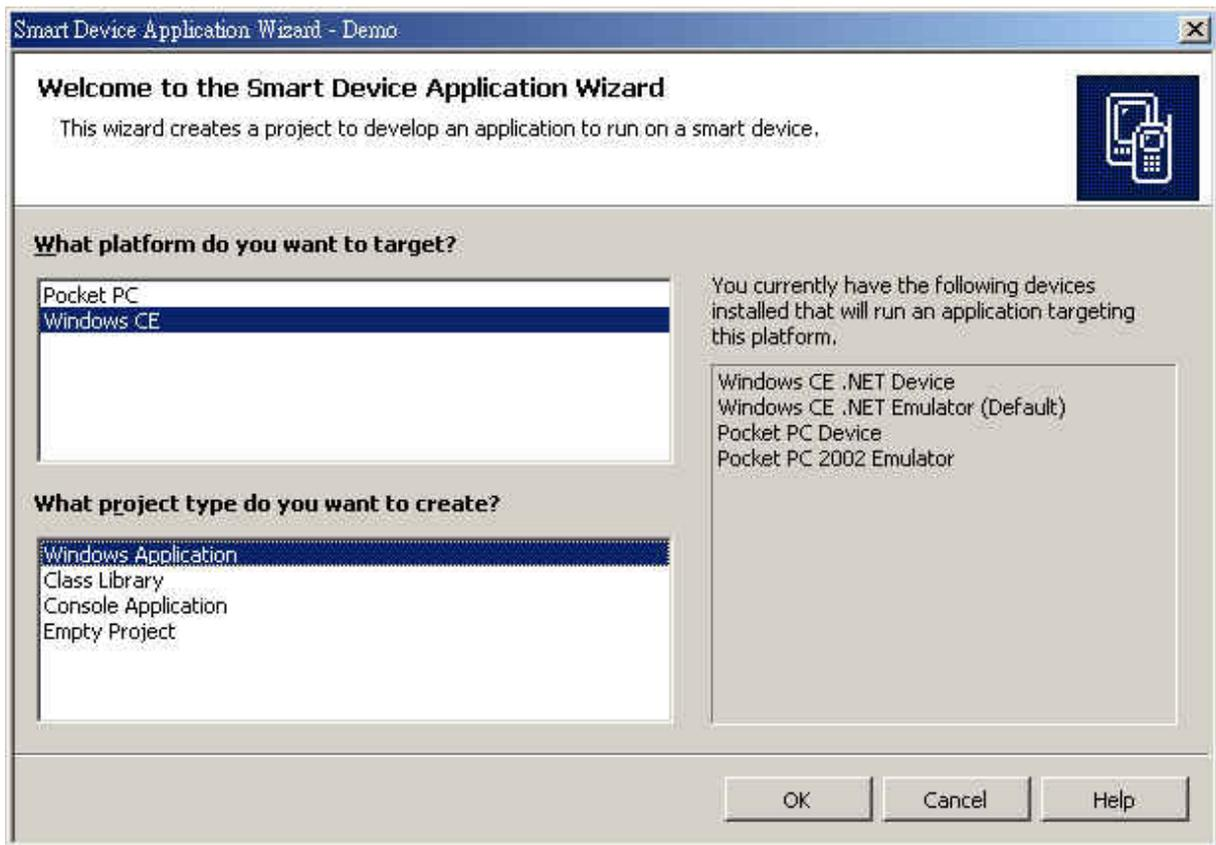

Fig. 5-2-2
6. This will start the "**Smart Device Application Wizard**" (see Figure 5-2-2). At this point you need to choose between developing for Windows CE and developing for the Pocket PC, a specific type of Windows CE device. Your choice will determine which project templates are used to construct your initial blank application.